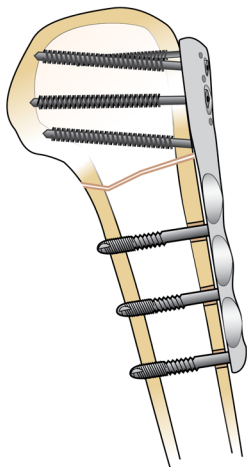

Fig. 24
*MotionLoc* Screws on the diaphyseal side of the fracture are required to be placed in the shaft of the bone distal to the fracture in proximal humerus and proximal tibial fractures (Fig. 24).